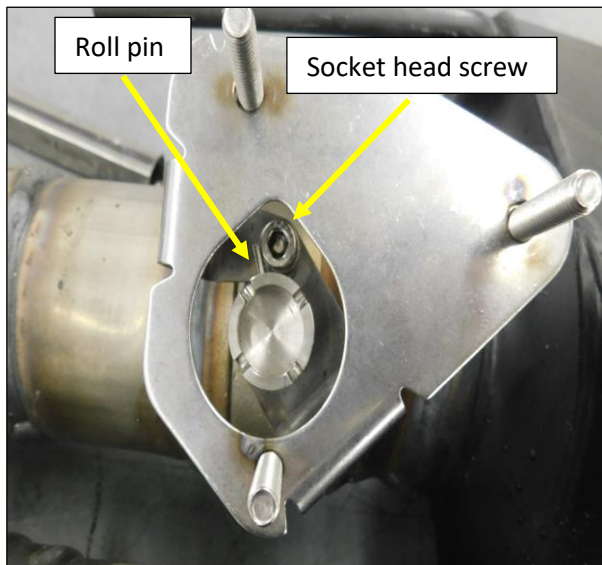
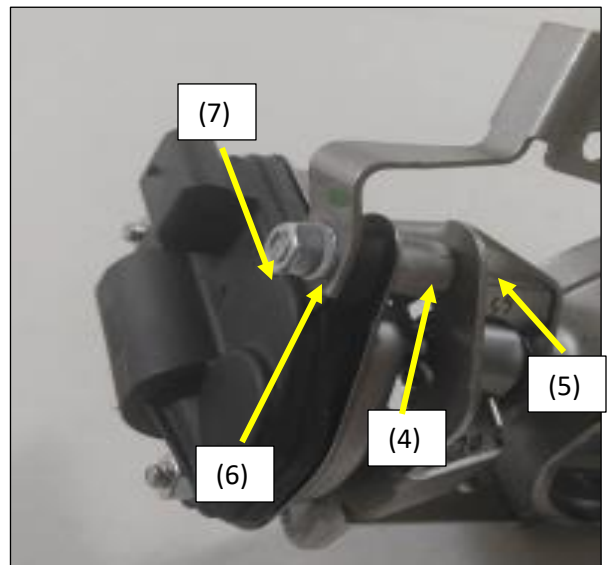

Figure 6
Figure 7
3. Transfer the valve assemblies to the Flowmaster exhaust using the supplied hardware (**Fig. 7**).
- Rotate the Flowmaster exhaust valve so that the valve blade is in the fully open position and the roll pin on the valve shaft is stopped on the socket head screw (**Fig. 6**).
- Install the provided $\frac{1}{4}$ x 1.25 bolts (5) with a $\frac{1}{2}$ " spacer (4) between the valve mounting plate and the actuator.
- Install a lock washer (6) and nut (7). See **Figure 7** for correct assembly of hardware. **IMPORTANT: The valve must remain in the open position when the actuator is installed.**